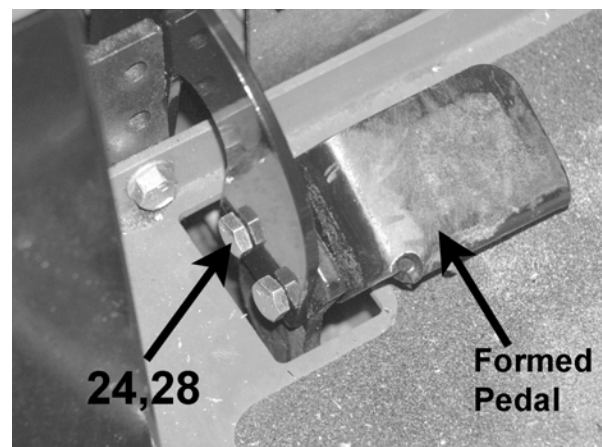

Figure 7
7. Remove the formed pedal on the forward/reverse pedal. Attach the Hand Control Pedal assembly from Step 5 using two bolts **24** and two nuts **28**. Note the formed pedal that was removed can be installed on the inside of pedal if desired. **(Figure 7)**